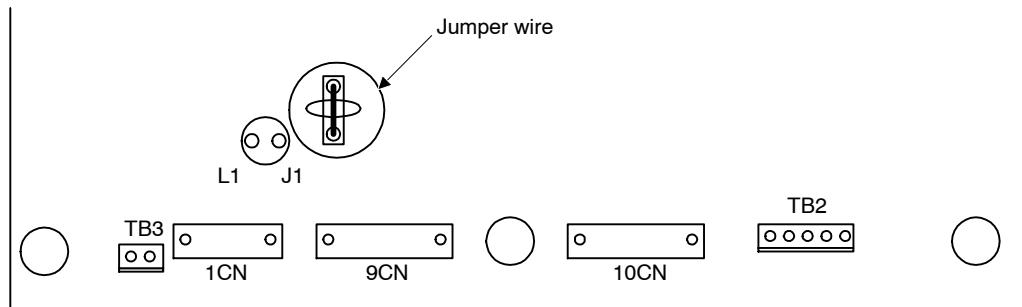

Fig 6.1 Jumper Wire Location on Control Board
- When the terminal is being used as a voltage input terminal (setting 0 or 1), jumper J1 must be disconnected on the control board. (See Figure 6.1.) The terminal's input resistor will be destroyed if the terminal is used for a voltage input with jumper J1 connected.